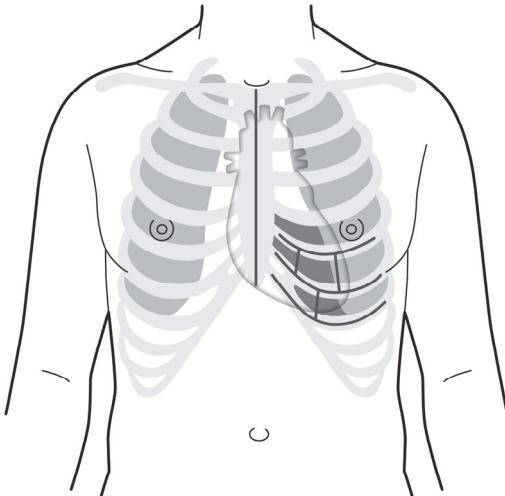

Figure 12: Mark the lung border of the 5th ICS acoustic window
**11F.** Once lung encroachment is seen, mark the location of the lateral border of the probe with a line extending between the upper and lower costal cartilage lines. See Figure 12.